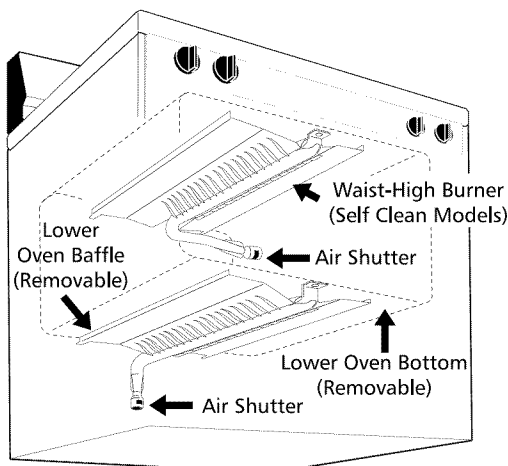

Fig. 12
- Observe the flame to determine if the broiler burner flame is properly adjusted. It should be steady with approximately 1" blue cones and no yellow or orange flame tips (See Fig. 12).